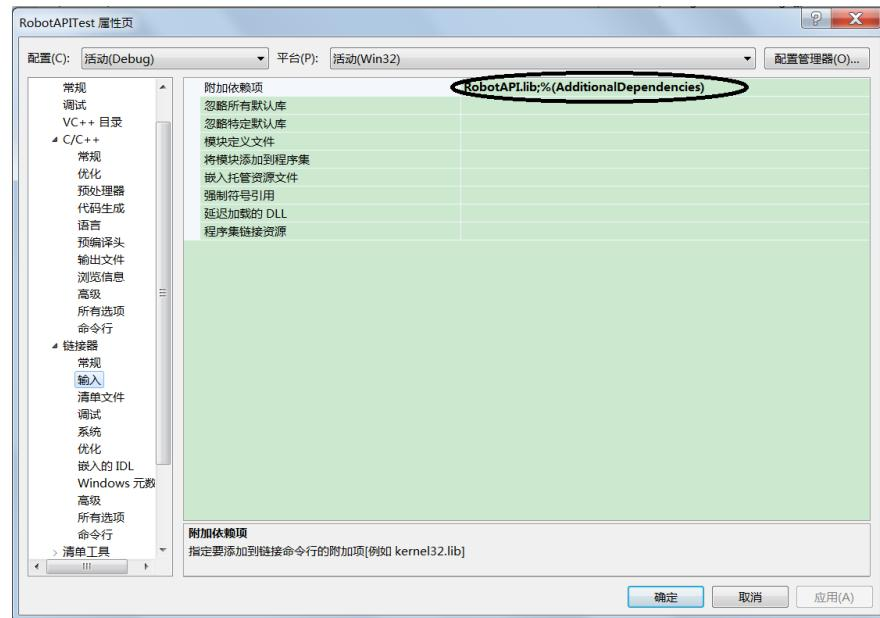

Figure 1-3 Add the directory where RobotAPI.lib is located in "Additional Dependencies"
Step3. Add the RobotAPI.lib file name in the "Additional Dependencies" of Project Properties-Configuration Properties-Linker-Input, as shown in Figure 1-3 below.